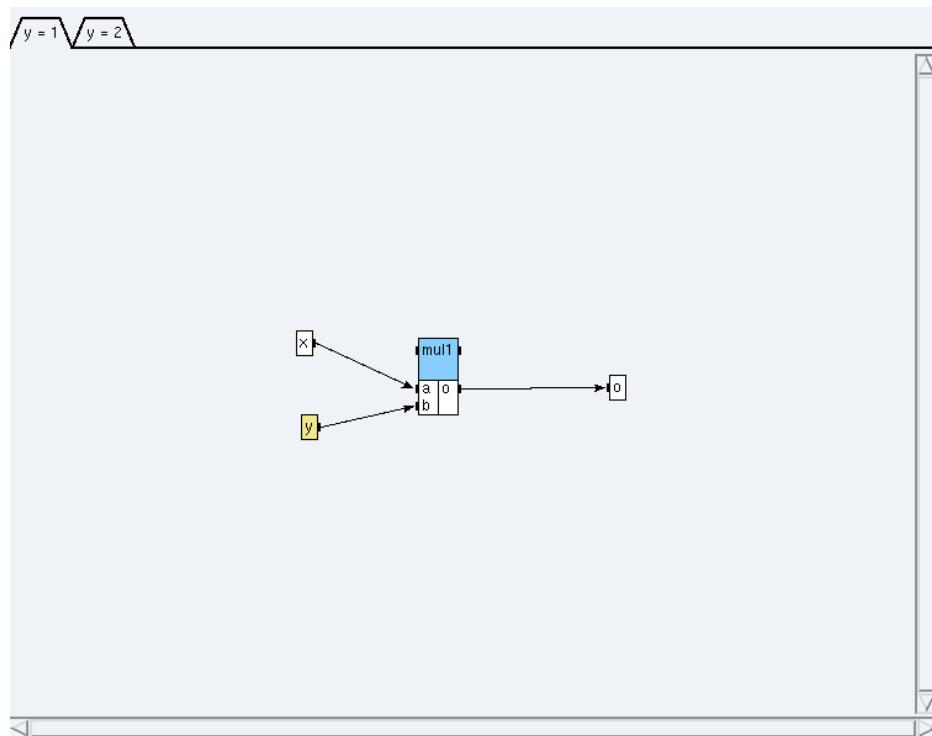

Figure 5.7: Condition y=1
- click on the condition **y=1** (*cf.* figure 5.7) and create the function mul1 of the definition **Arit\_mul** from int library,